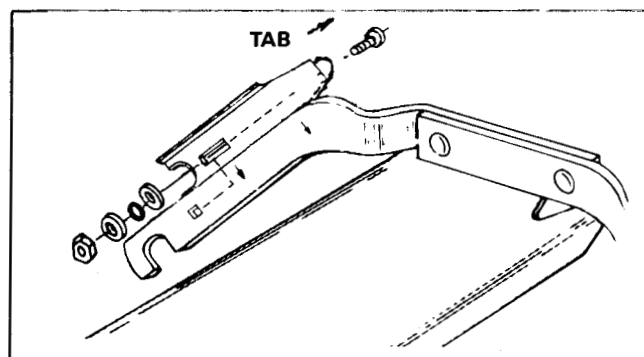

Figure 139
10. See Figure 139. Place one latch against the outside of both mount bars with the tab up (and facing outward) and the long slot located in front of the square hole near the mounting slot. Secure each latch with one 1/4" X 3/4" carriage bolt - threads facing inward, a special washer, O-ring, special washer and 1/4" hex locknut.